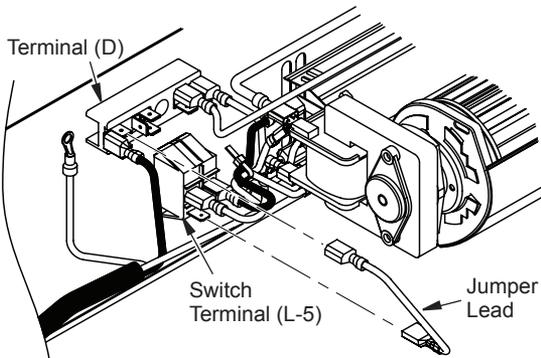

Figure 25 - Connecting Jumper Lead
16. Connect one end of black jumper lead, provided in kit, to power connection marked 'D' on terminal block and other end to switch terminal marked 'L-5' (see Figure 25, page 13).